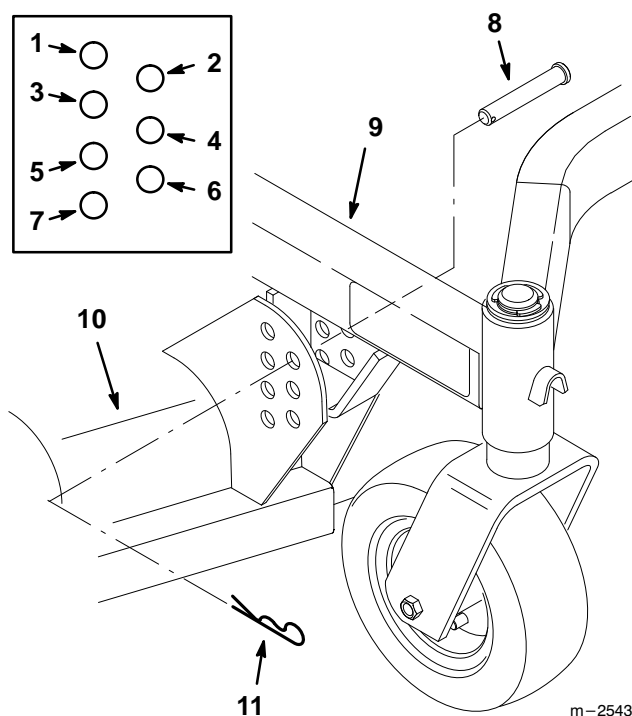

Figure 3
2. Mount the mower to the carrier frame with four (4) clevis pins and hairpin cotters (Fig. 3).